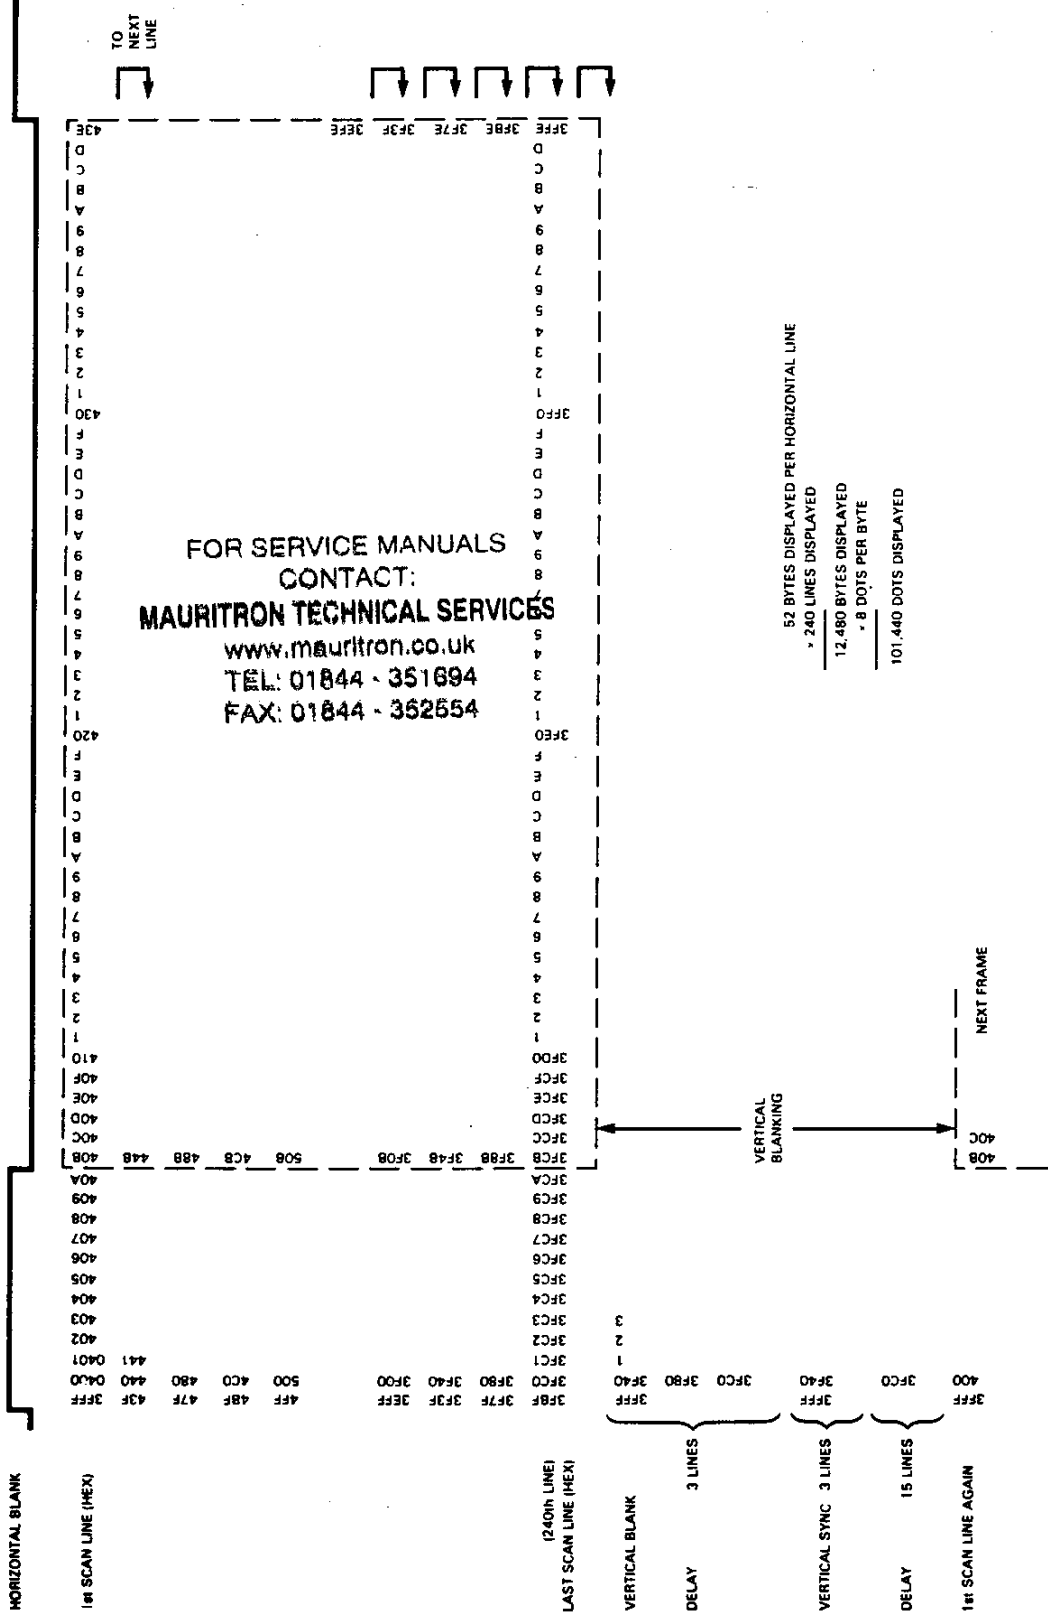

Figure 4.3C CRT RAM Addressing -40-
4.3.5.3 CRT RAM Addressing (Refer to Figure 4.3C)